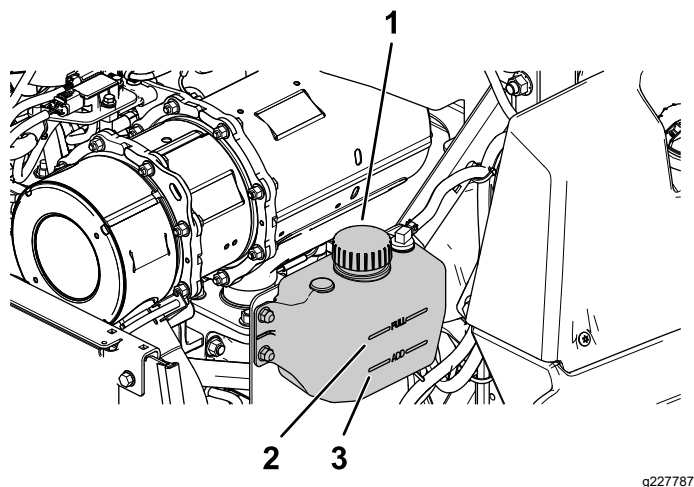

Figure 58
2. Check the level of the coolant in the expansion tank (Figure 58).
3. If coolant level is low, remove the expansion-tank cap, and add the specified coolant (Figure 58).